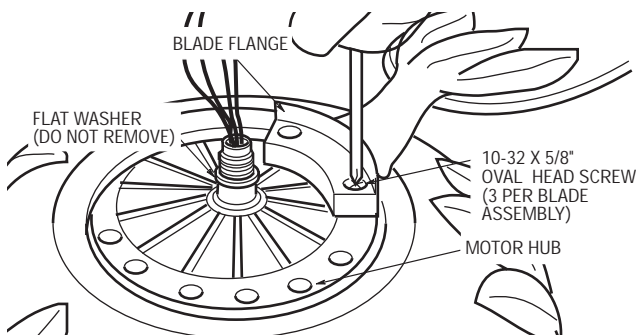

Figure 23
- 15. Using the 5/32" hex wrench (supplied), loosen the setscrew in the collar and unscrew (counterclockwise) the switch housing assembly from the motor shaft (Figure 23). Do NOT remove the flat washer from the motor shaft.
- 17. Loosely attach one blade assembly to the motor hub using two 10-32 x 5/8" oval head screws (supplied) (Figure 23). Make sure the screws are NOT tightened at this time. Repeat this procedure for the four remaining blade assemblies.